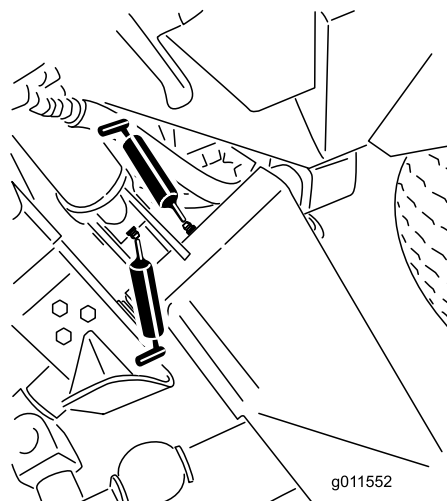
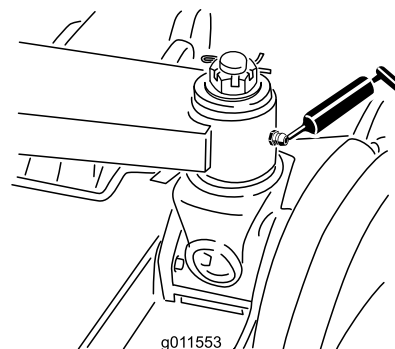

Figure 67
Figure 68
- 6 main lift-arm bushings (Figure 67 and Figure 68)